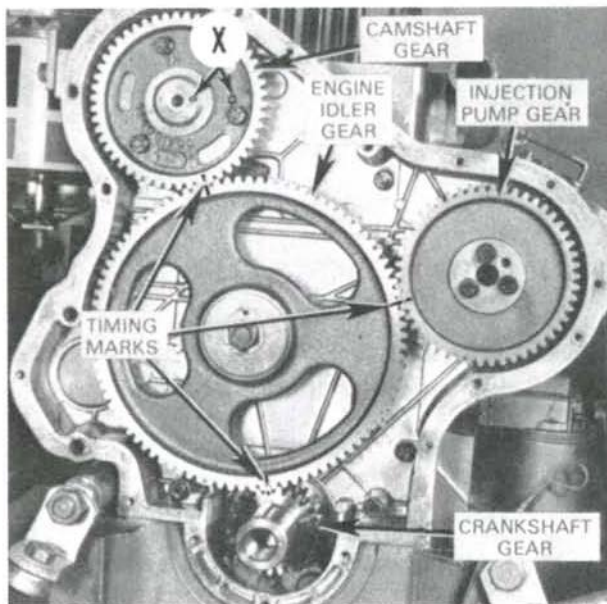

Fig. 67—View of timing gear train with timing marks aligned. Due to odd number of teeth on idler gear, marks align only once in 18 revolutions of crankshaft.
65. Fig. 67 shows a view of timing gear train with cover removed. Before attempting to remove any of the timing gears, first remove fuel tank, rocker arm cover and rocker arms assembly to avoid the possibility of damage to pistons or valve train if camshaft or crankshaft
66. **CAMSHAFT GEAR.** The gear is attached to camshaft by three equally spaced cap screws which thread into camshaft flange. It is possible, therefore, to install the gear in three positions, only one of which is correct. To correctly install the gear, align the stamped letters "D" on camshaft hub and front face of gear as shown at (X—Fig. 67). Tighten cap screws to 27 N·m (20 ft.-lbs.) torque.
68. IDLER GEAR. The idler gear is retained on idler shaft by a cap screw and washer. Idler gear bore diameter should be 53.98-54.02 mm (2.125-2.127 inches) and idler shaft diameter should be 53.92-53.94 mm (2.123-2.124 inches). Gear to shaft diametral clearance should be 0.04-0.10 mm (0.0016-0.0039 inch). Gear end play on shaft should be 0.13-0.38 mm (0.005-0.015 inch). When reinstalling gear, make certain all timing marks are aligned as shown in Fig. 67. Tighten retaining cap screw to 68 N·m (50 ft.-lbs.) torque.
69. TIMING THE GEARS. Due to the odd number of teeth on idler gear, the timing marks will align only once in 18 crankshaft revolutions. To time the engine after the gears are removed, first install camshaft gear as outlined in paragraph 66 and the injection pump gear as in paragraph 67. Install the crankshaft gear on keyed shaft with timing mark to the front. Refer to Fig. 67 and turn crankshaft, camshaft and injection pump until the respective timing marks point approximately toward idler gear hub; then, install idler gear aligning timing marks as shown.
To reinstall camshaft, reverse the removal procedure. If camshaft gear was removed, be sure stamped letters (X—Fig. 67) on gear and camshaft flange are aligned. Tighten gear retaining cap screws to 27 N·m (20 ft.-lbs.) torque.